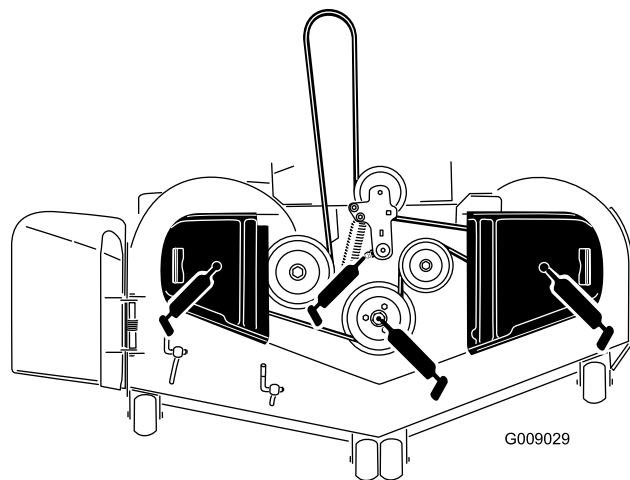

Figure 41
3. Grease the mower deck idler-pulley pivot until grease come out the bottom (Figure 41).
4. Grease the 3 spindle bearings until grease comes out (Figure 41).